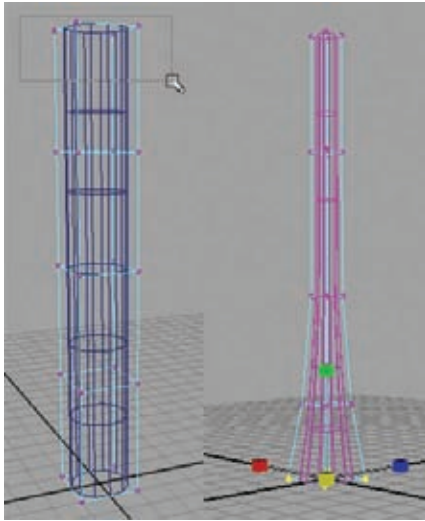

Figure 2.18
2. Press the F2 shortcut key to switch the current menu set to the Animation menu set, if it isn't already. With your object selected, select Create Deformers → Lattice. Adjust the lattice points to shape the trunk so that it tapers from the base to the tip of the trunk (Figure 2.18).